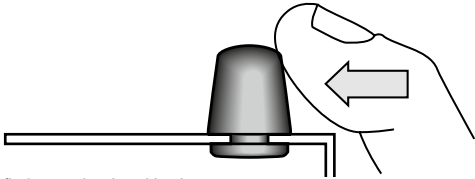

fig.3: removing the rubber legs
- When mounting the appliance in a 19"-rack, you can remove the provided rubber legs (fig.3). Apply lateral pressure to the legs to remove them from the appliance.